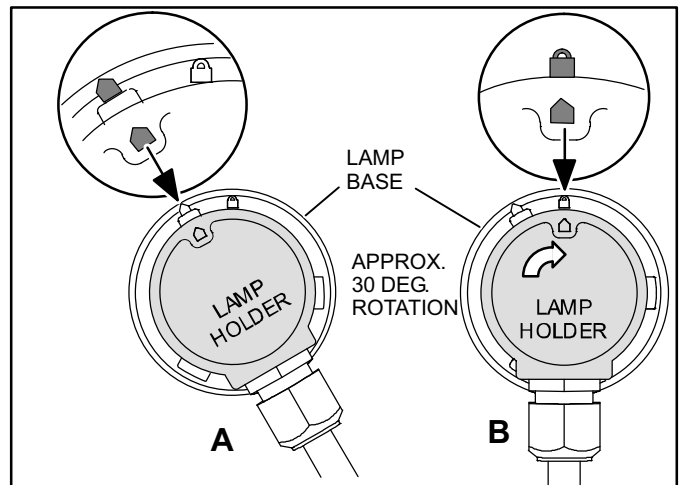

Figure 5. Locking Lamp in Place
6. Align arrow on lamp holder with arrow on lamp base. Insert lamp holder into base (see A in figure 5).
7. Twist to align lamp holder arrow with lock symbol (see B in figure 5).